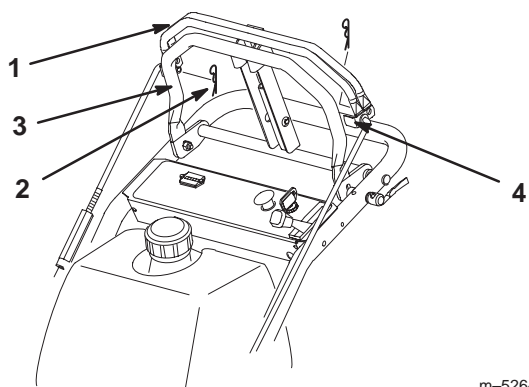

Figure 4
- Remove hairpin cotter and rod from upper control bars (Fig. 4).
- Press and hold upper control bars against reference bar, so stop hits (Fig. 4).
6. Connect rod to upper control bars with previously removed hairpin cotter (Fig. 4).
2. Remove hairpin cotter and rod from upper control bars (Fig. 4).
3. Press and hold upper control bars against reference bar, so stop hits (Fig. 4).
6. Connect rod to upper control bars with previously removed hairpin cotter, tighten wing nut and turnbuckle (Fig. 4).